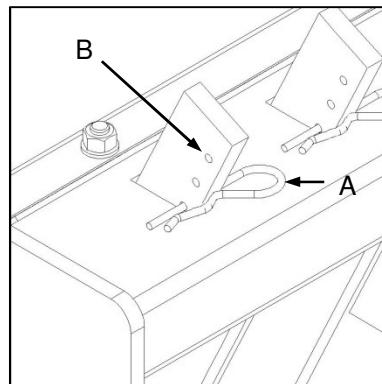

Fig. 5
- ✓ Remove the R-clip (Fig. 5-A), lift or lower the tine to its required position and re-insert the R-clip into an appropriate hole (Fig. 5-B). Ensure that all tines are adjusted equally.
- ✓ Verwyder die R-knip (Fig. 5-A), lig of laat sak die tande tot die vereiste posisie en plaas die R-knip in 'n gesikte gat terug (Fig. 5-B). Verseker dat al die tande dieselfde gestel is.